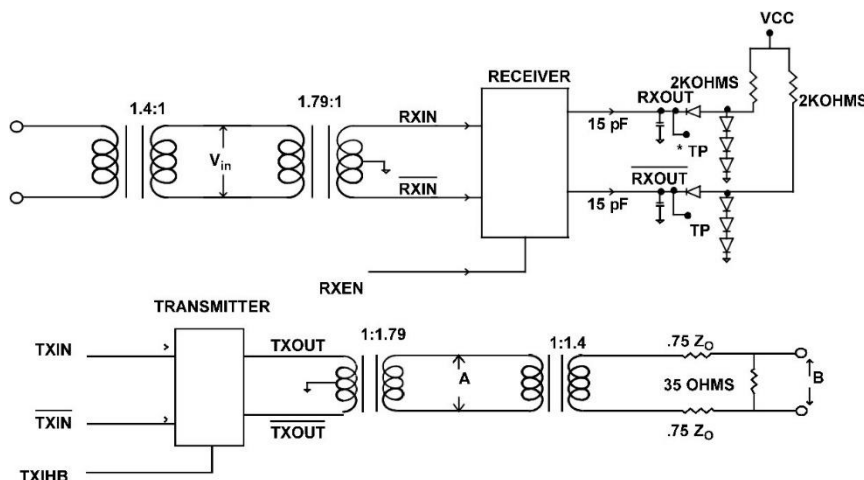

Figure 7. Transformer Coupled Transceiver with Load
1. Transformer Coupled Stub: Terminal is defined as transceiver plus isolation transformer. Point A is defined in figure 7.